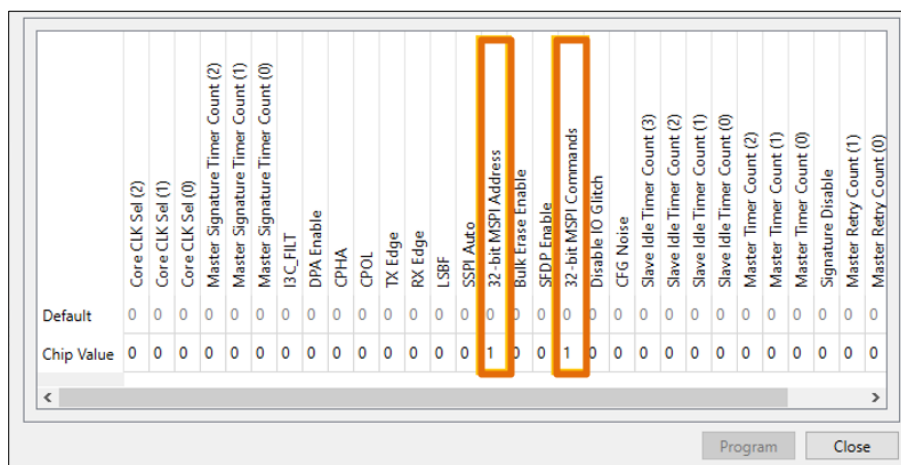

Figure A.2. Settings to Select Chip Value
3. Change bit 0 to 1 for 32-bit SPIM Address and 32-bit SPIM Commands as shown in Figure A.2. For changing these bits, click once on the 0 values in the Chip Value row.